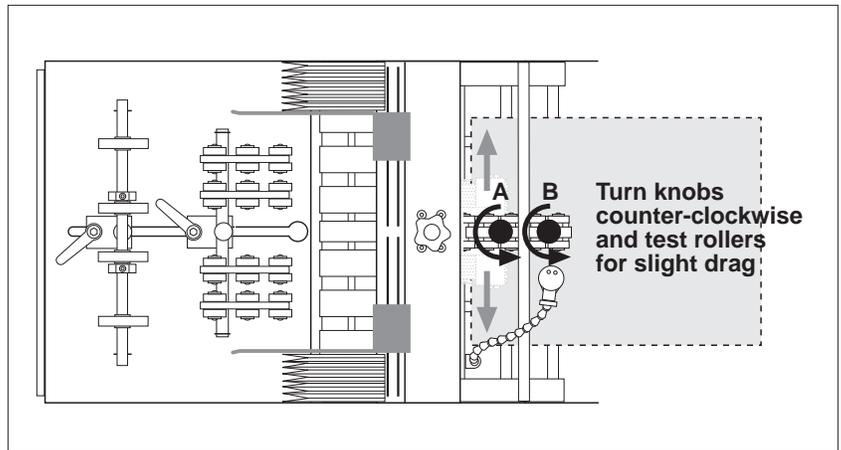

Figure 18. Turning Knobs Counter-Clockwise to Insert Product
2. Turn knobs A and B counter-clockwise (Figure 18) to lower the hold-down assembly so that a slight drag exists between the product and the hold-down rollers. Verify slight drag by sliding product side-to-side.